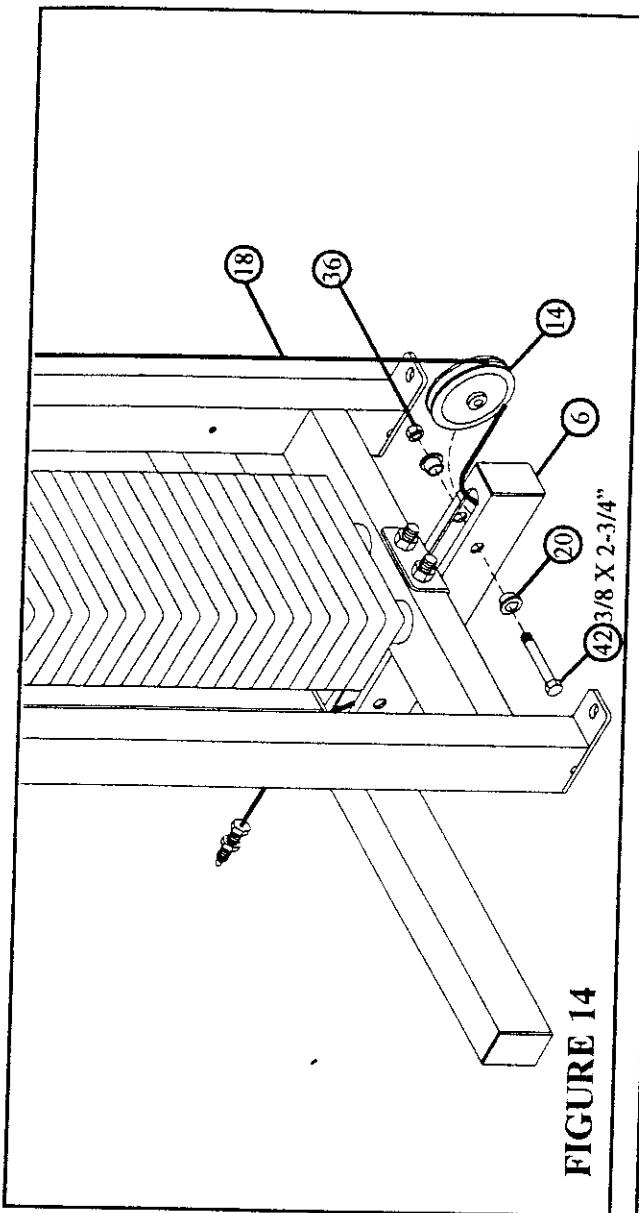

FIGURE 14
- Route the threaded end of the CABLE (18) through the LOWER PULLEY HOUSING (6) as shown in FIGURE 14.
- Slip one 3-1/2" PULLEY (14) over the CABLE (18) and SECURELY assemble the 3-1/2" PULLEY (14) to the LOWER PULLEY HOUSING (6) using one 3/8 X 2-3/4" BOLT (42), two 3/8" FLANGE SPACERS (20) and one 3/8" LOCK NUT (36) as shown in FIGURE 14. (Make sure the CABLE is in the groove of the PULLEY.)